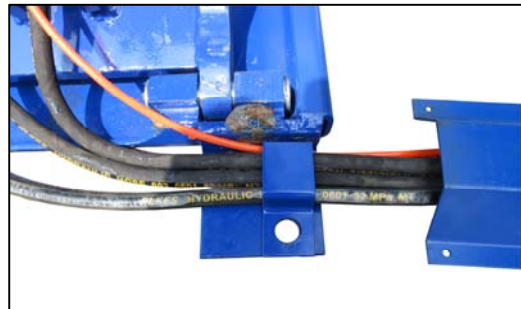

Fig.27
9. Line up the hoses and cables. Put on the hose fixing plate and cover to protect them (Fig.27). Position the control unit. Anchored these covers and control unit.